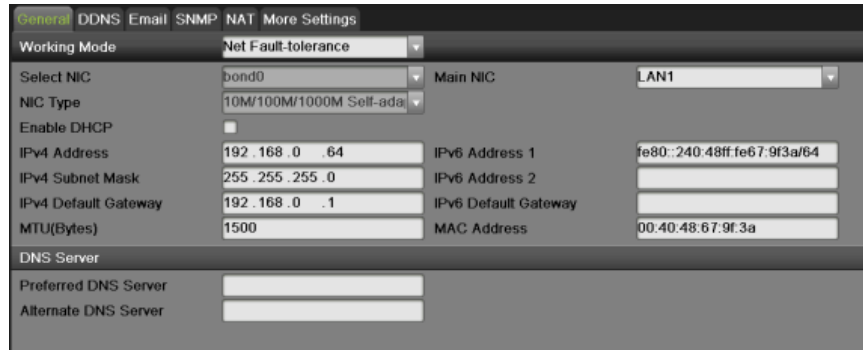

Figure 101 Network Settings Menu
2. Select the General tab. The current network settings are displayed on the right side of the menu, shown in **Figure 101**.